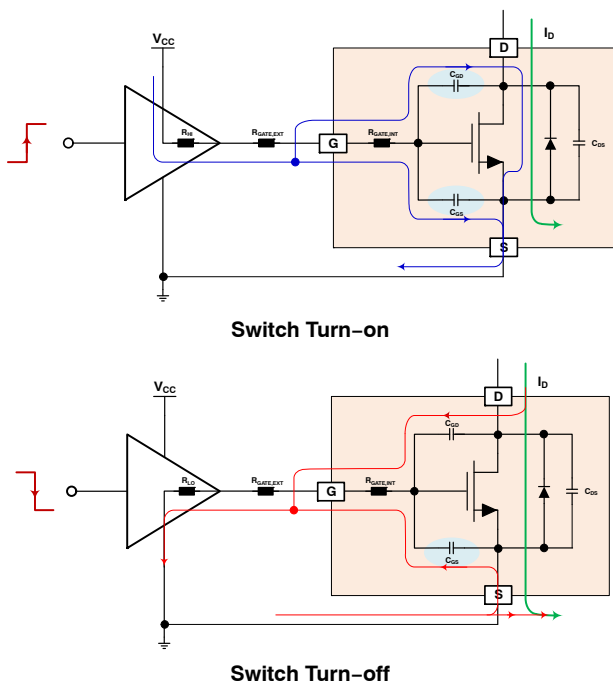

Figure 1. Gate Driving Current Path
Gate Driver device applies voltage signal (V_{GS}) between Gate (G) & Source (S) of power MOSFET, while providing a high-current pulse as shown in Figure 1.